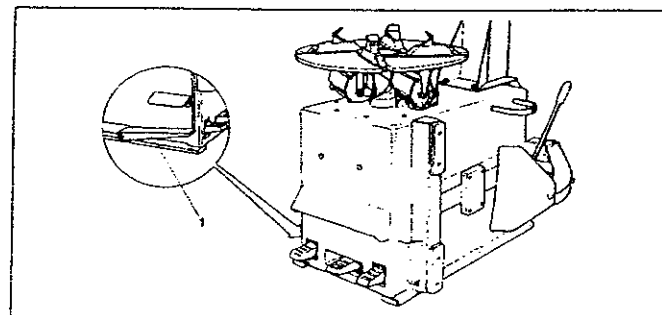

Fig.13
**F.** Press bead-seater pedal on left side of the machine (#1 Fig.13) half way down: air will come out from inflation hose end.